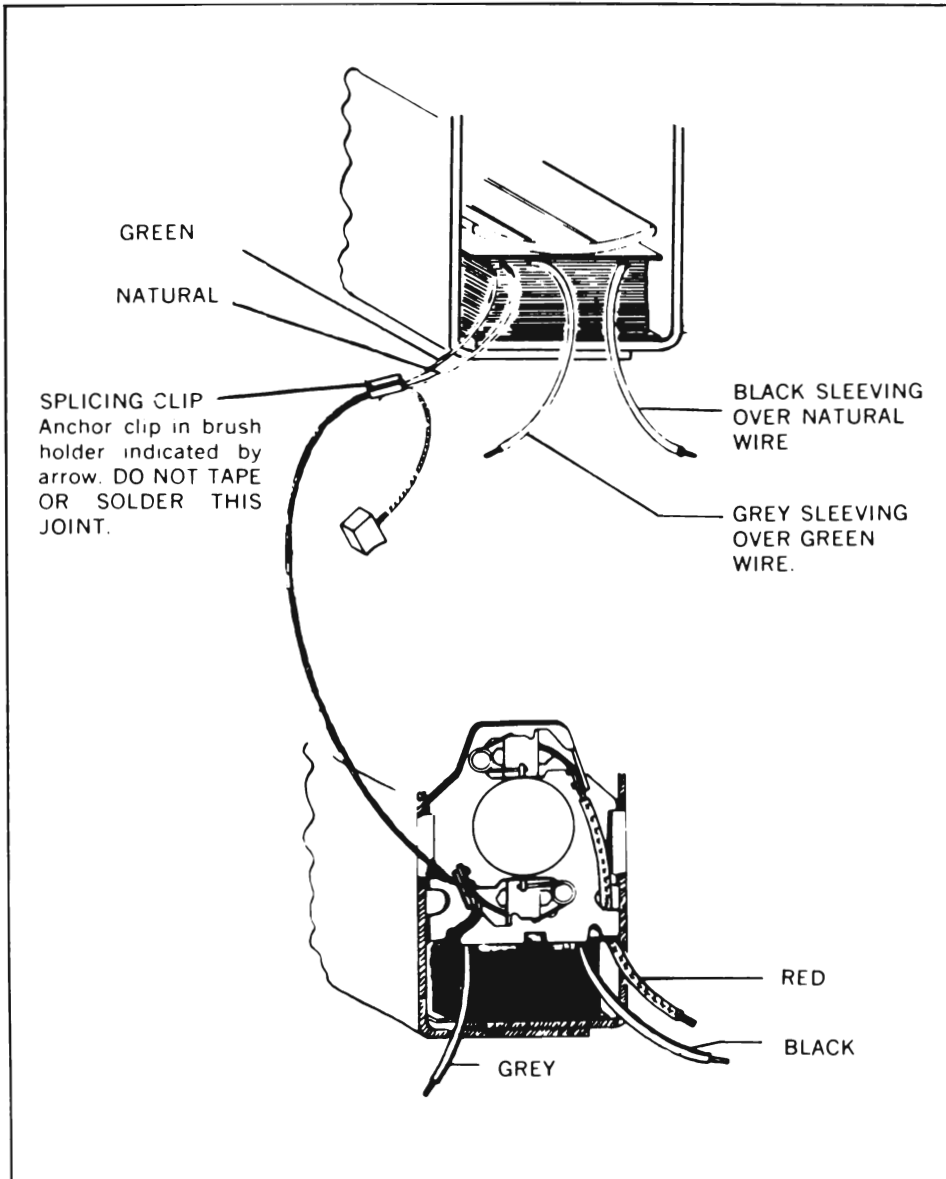

Figure 10-87—Two Speed Motor Wiring
5. Wiper Crank Arm Does Not Return To Park Position When Wiper Is Turned Off. Park Position is shown in Figure 10-87. Check for dirty, bent or broken park switch contacts.
Except for the internal wiring to the wiper terminal board, the disassembly and assembly procedures for the two speed wipers covered in this section are the same as those outlined for the single speed wipers in paragraph 10-56 of this manual. See Figure 10-87 for internal wiring.